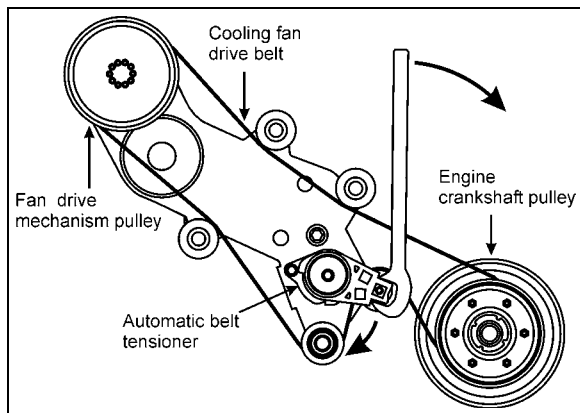

FIGURE 22: DRIVE BELT ROUTING
- Wrap the new drive belt around the fan drive mechanism pulley, the idlers and the automatic tensioner idler as shown on figure 22.
- Using a $\frac{1}{2}$ " breaker bar or a $1 \frac{1}{2}$ " open end wrench, rotate the automatic tensioner in clockwise direction to relieve tension on the belt and hold the tensioner in that position (Fig. 22).